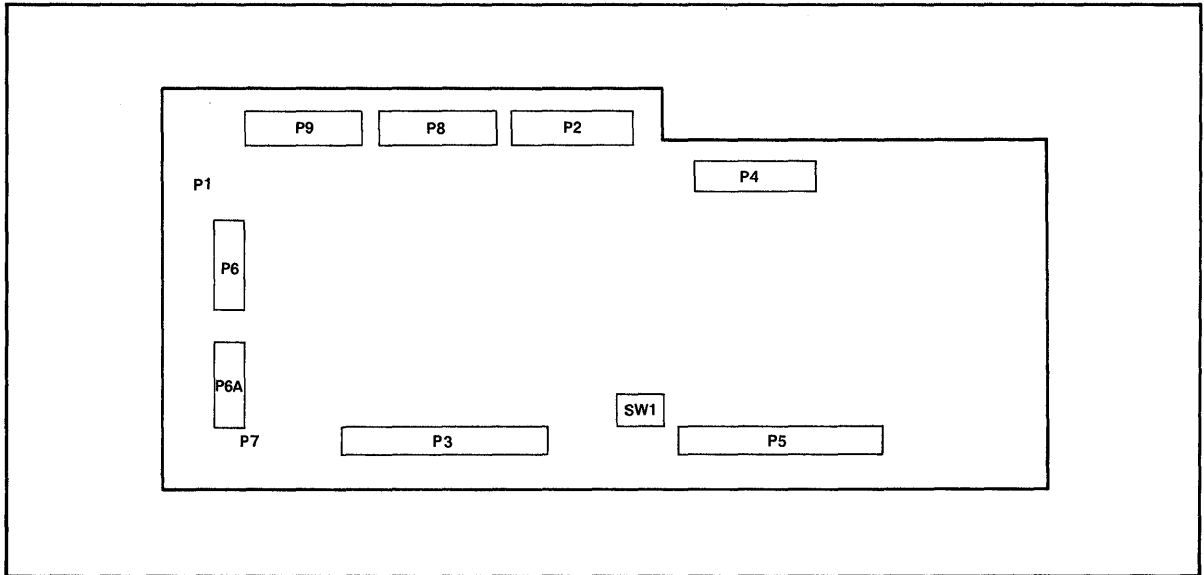

Figure 2-7 Location of Internal Switch SW1
- Locate switch SW1 on the TS 816/40 logic board as shown in Figure 2-7.